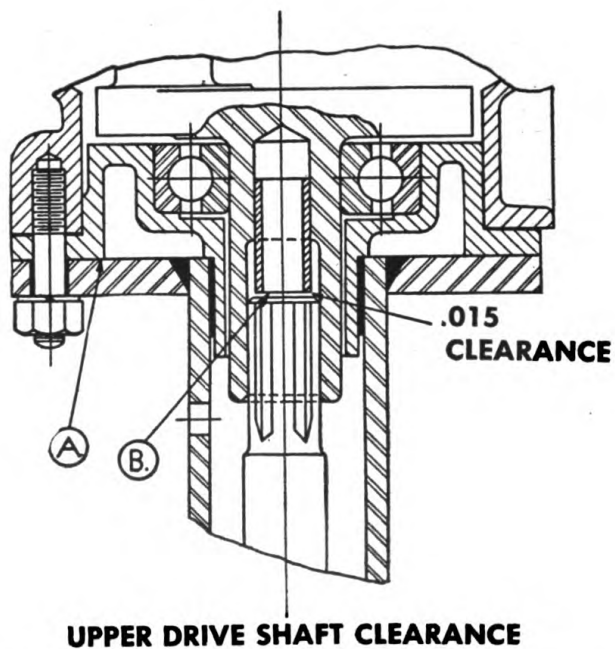

Figure 63. Upper drive-shaft clearance to prevent overheating or breakage of shaft and bearings.
spacing bushing inside spline of crankshaft is most important. Proper clearance is shown at *B*, figure 63.
(2) If drive shaft is too long it exerts pressure on crankshaft and causes heating of the shaft and bearings, and breakage.
(3) Several methods can be employed in measuring this clearance. A simple one is to use a washer of known thickness, over .015 inches, and insert it between drive shaft and crankshaft spacer bushing at *B*, figure 63. Deducting thickness of feeler gauge from thickness of washer gives the clearance between shaft and bushing. Do not attempt to move bushing.
g. REMOVING ARMATURE BASE. (1) After removing flywheel disconnect all spark-plug wires from plugs. Loosen friction screw shown